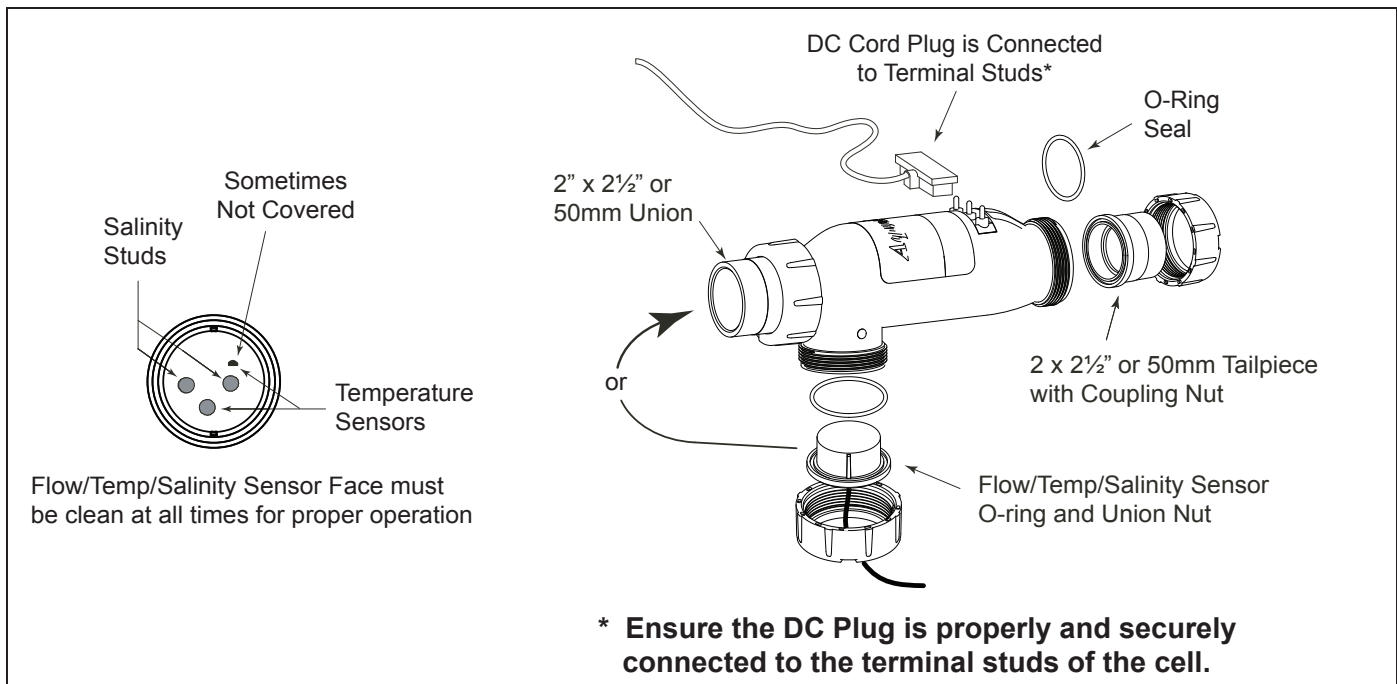

Figure 11. Cell Installation and Flow/Temp/Salinity Sensor
- Mount as shown in Figure 11. This will result in the most reliable operation.
- (1) In one of the available ports in the electrolytic cell
- (2) In the same line prior to the cell with no valves or diverters between the flow/temp/salinity sensor and cell.
6. Install the flow/temp/salinity sensor into the 3-Port cell. See Figure 11.
7. Install the flow/temp/salinity sensor into the available sensor port (See Figure 11).
- Install the new flow/temp/salinity sensor into the 3-port cell (See Figure 11).